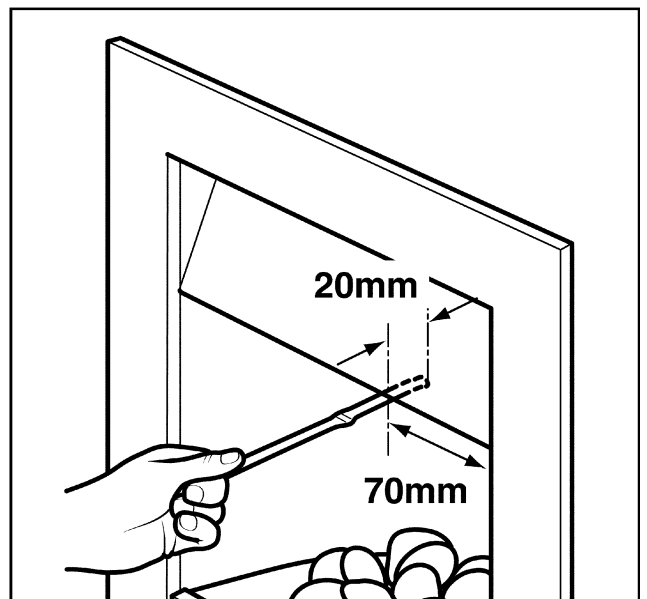

Figure 24. Smoke match tube position (Fascia may differ from that shown)
4. The smoke match should be placed horizontally into the hotbox at the right hand side (See figure 24).